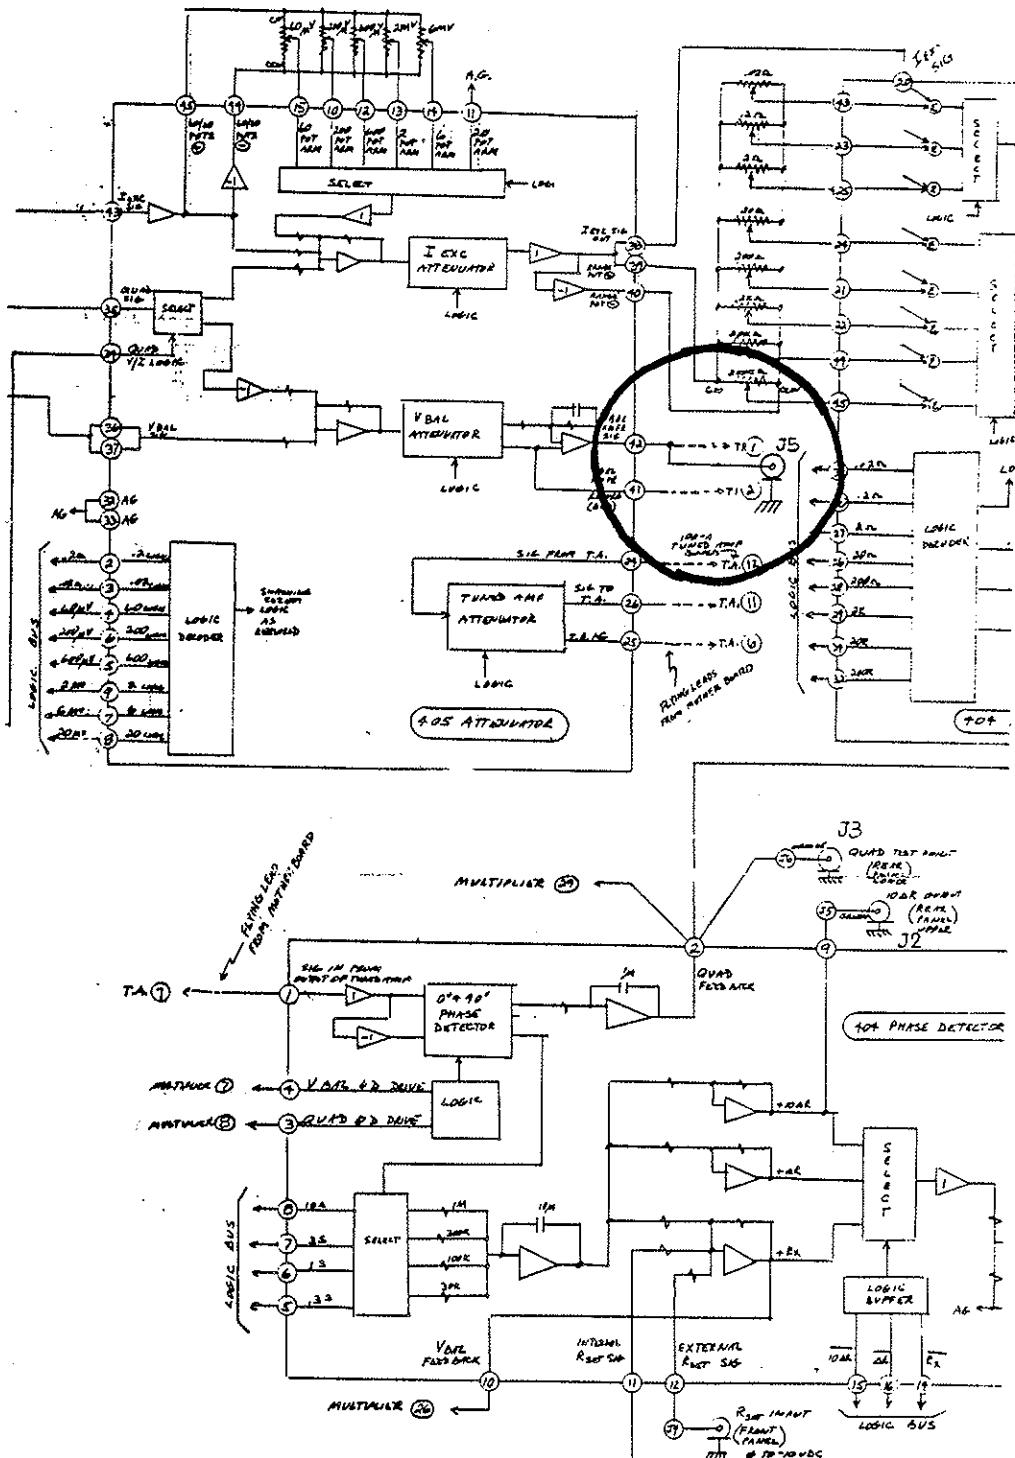

FIGURE 100A
1. Figures 100A, 100B, and 100C, schematically show the changes made to the LR-400 to implement this option.